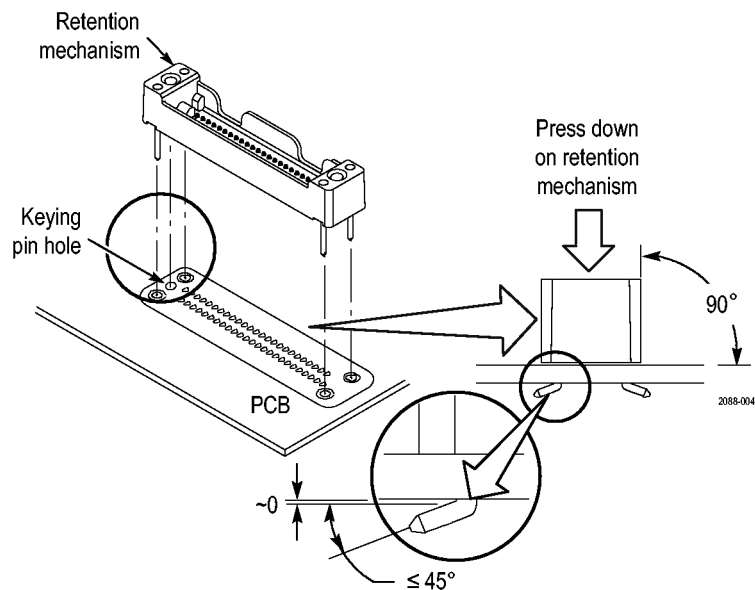

Figure 99: Installing the retention mechanism
2. Align the retention mechanism over the footprint so that the keying pin on the retention mechanism lines up with the keying pin hole on the footprint. (See Figure 99.)